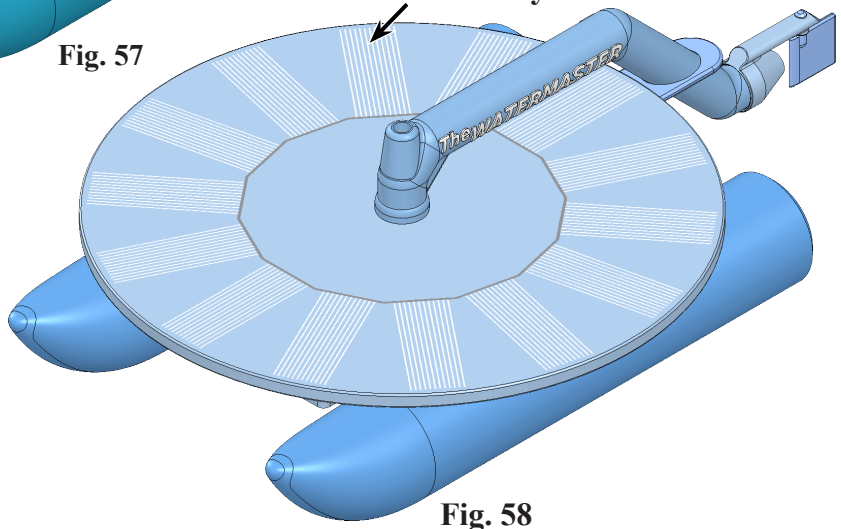

Fig. 58
Step 6. **Show SOLAR PANEL**  part, **Fig. 58**. To show, move cursor over the component in graphics area and press **Shift - Tab**.